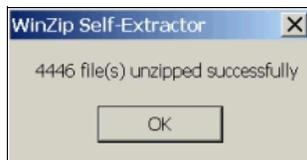

Figure A-7 Extraction finished
- e. Click **Unzip**. A window displays the confirmation messages as files are extracted, as shown in Figure A-7.